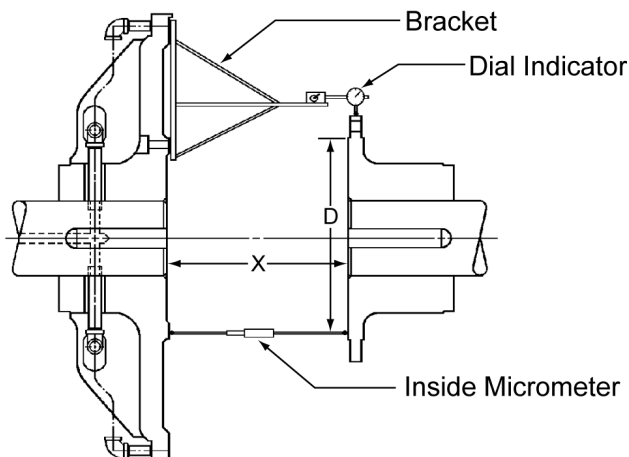

Figure 5
“X” DIMENSIONS (FIG. 5)
Not to exceed 0.0005 inch per inch (0.0005 mm/mm) diameter at which readings are taken ("D" on Figure 5).
- 2.4.1 Foundations must be set so distance "X", shown on **Figure 5** (or the appropriate drawing for non-standard applications), is established. If the clutch is mounted on a shaft having plain bearings, make sure the shaft is centered within the bearings when establishing the "X" dimension. Refer to Table 2 for appropriate "X" dimensions.
- 2.4.2 Fabricate a rigid bracket for supporting a dial indicator and attach to the spider. **Figure 5**.